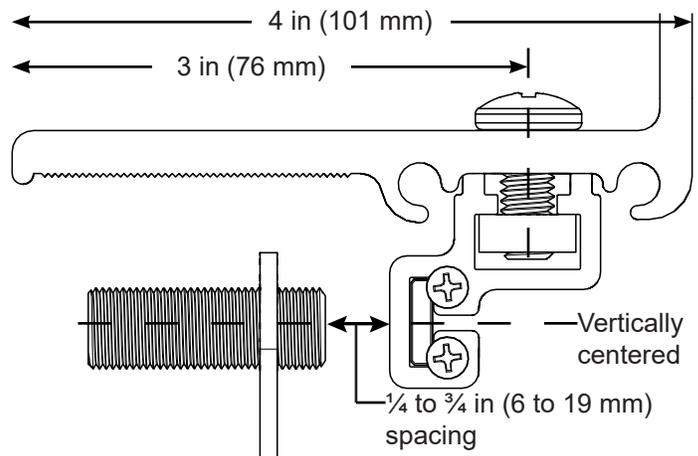

Figure 7. Align Dual Limit Sensor and Limit Flag
11. Make sure the dual limit sensor is vertically centered on the limit flag face (Figure 7).
12. Set dual limit sensor spacing: loosen the two nuts ( $1\frac{1}{16}$  in) on the dual limit sensor, adjust the spacing between the dual limit sensor and stop limit flag face to  $\frac{1}{4}$  to  $\frac{3}{4}$  in (6 to 19 mm), and tighten the nuts to hold this spacing (Figure 7).